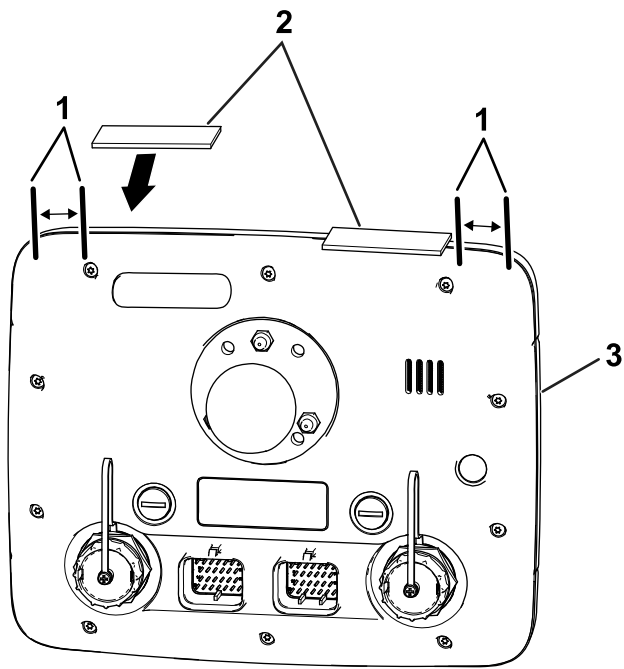

Figure 10
3. At the top of the sprayer monitor, align the strips to the sprayer monitor as shown in Figure 10.